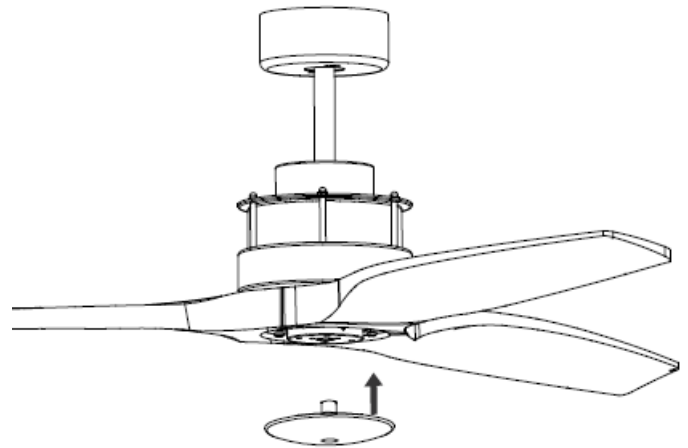

Fig. 9
- Finally install the bottom cover to the light kit housing by rotating it clockwise. Fig. 9